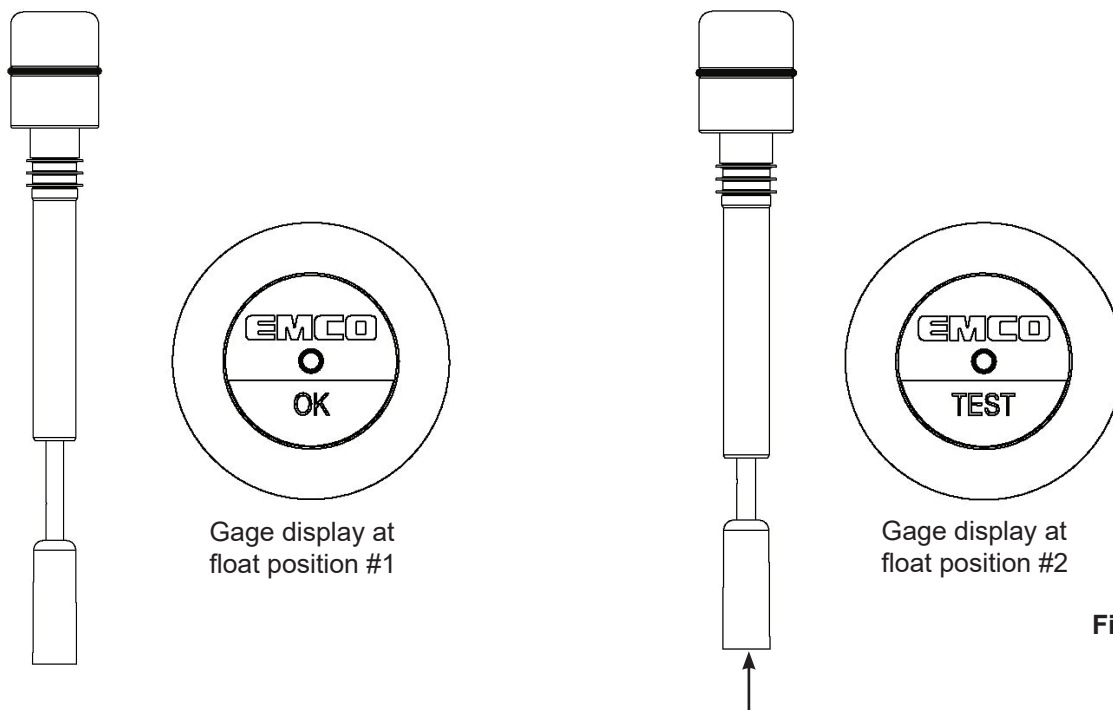

Figure 1
4. Hold the A1004-001GAGE-T upright and verify that the display shows the correct background color for each float position as indicated in Figure 1.
6. Verify the displays reads "OK" as indicated in Figure 1.
2. Hold the A1004-001GAGE-T upright and verify that the display shows the correct background color for each float position as indicated in Figure 1.